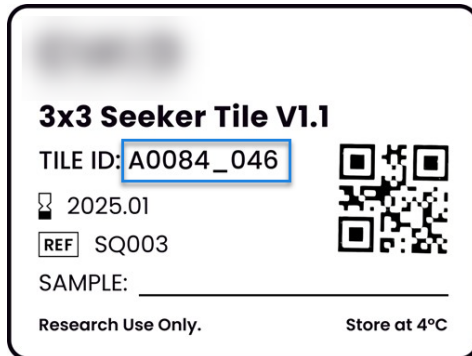

Figure 5. Example Seeker Tile label to identify the tile ID. The tile ID, A0084_046, is indicated by the blue box.
4. Record the tile ID (e.g., A0084_046) of the Seeker tile as shown in the example in Figure 5.